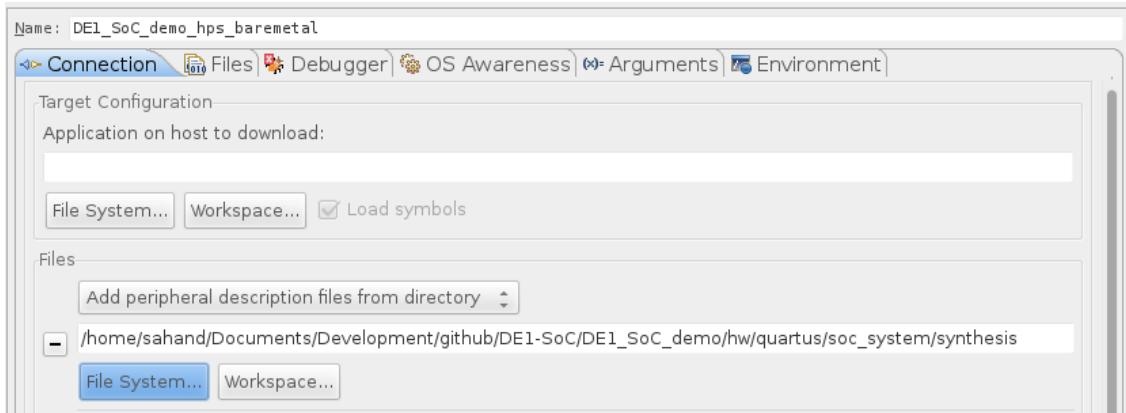

Figure 12-6. Debug Configuration "Files" Tab
- In 9.3.2, we configured our HPS to use some FPGA peripherals. We can instruct the debugger about this so it can show more detailed information when debugging. To do this, set the combobox to "Add peripheral description files from directory" and set it to the "DE1\_SoC\_demo/hw/quartus/soc\_system/synthesis" directory, as shown in Figure 12-6. This directory contains a file called "soc\_system\_hps\_0\_hps.svd" which has information on all of the HPS' peripherals which are in the FPGA fabric.